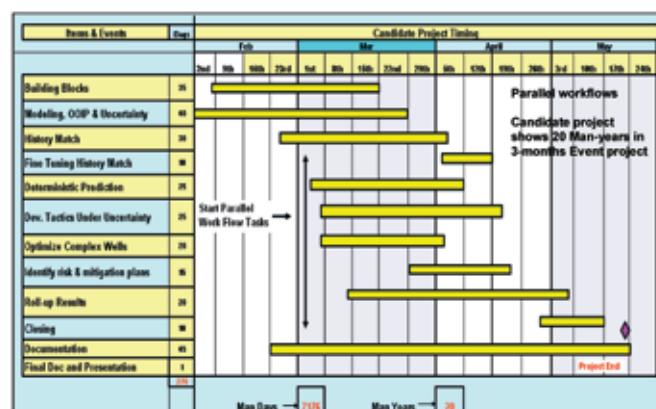

Figure 4 - Example of an Event Solution project plan.
After data gathering, the reservoir characterization is independently evaluated, and the models are constructed, thus the Event Solution work begins. Although the process and techniques will be described in detail later, the objective of the Events stage is: (1) to produce an optimized action plan for the field, (2) develop numerical estimate of uncertainty on, say, plateau duration, (3) evaluate the risk of achieving that plateau, and (4) define a time-sensitive information plan that reduces and mitigates project risk. Figure 4 shows an example of a typical Event Solution project schedule duration and general steps.
The Events stage is divided into three Sub-Events. As described in Figure 4, these sub-events study duration overlap in a semi-parallel workflow.